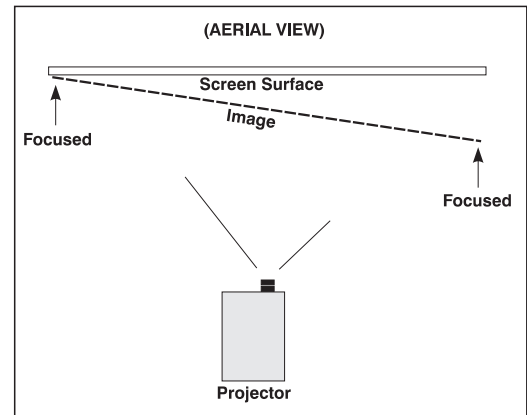

Figure 2.37. Example of Poor Left/Right Boresight
3. Adjust the horizontal boresight bolt (Figure 2.37) as necessary to direct or “aim” the lens toward the side of the image which focused too close to the lens. When both sides appear equally blurry, re-focus on the left side of the screen.